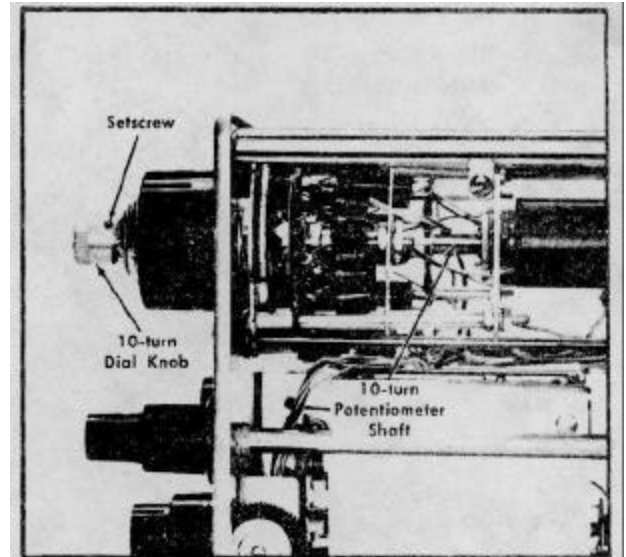
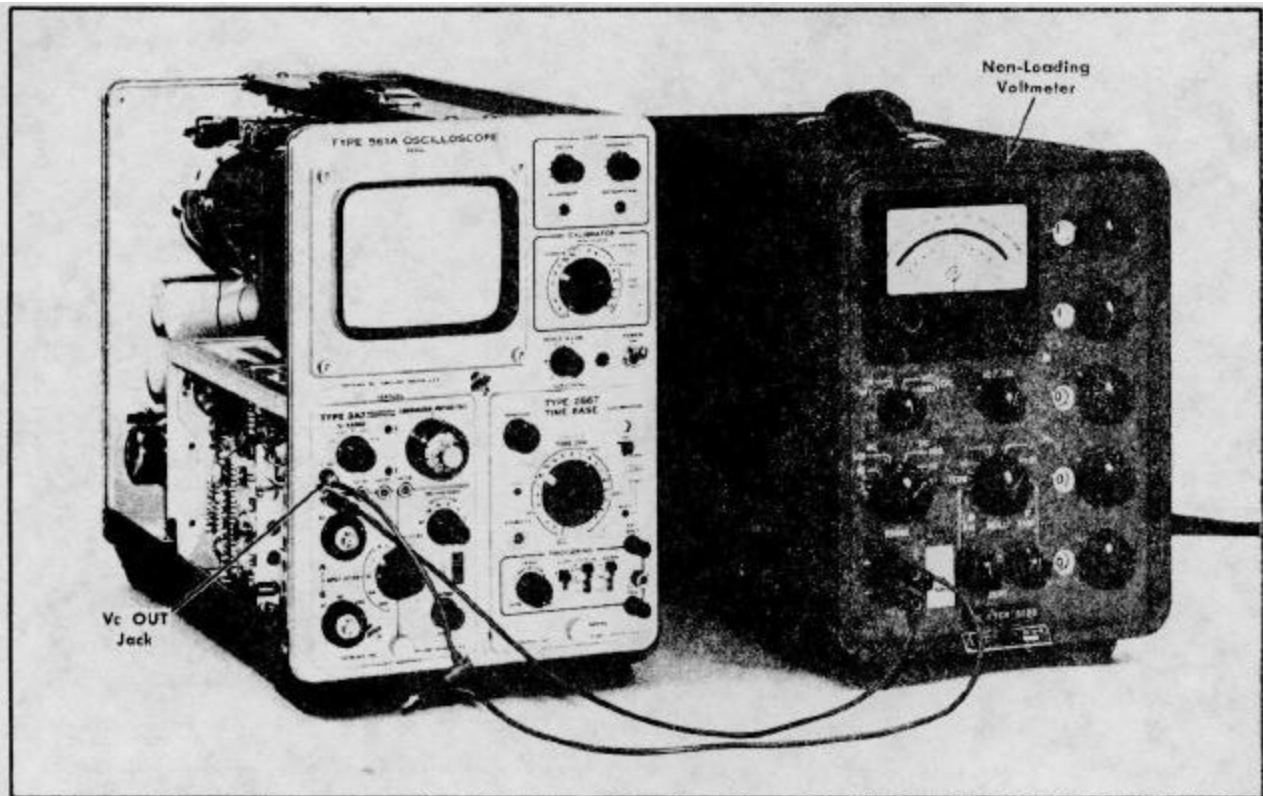
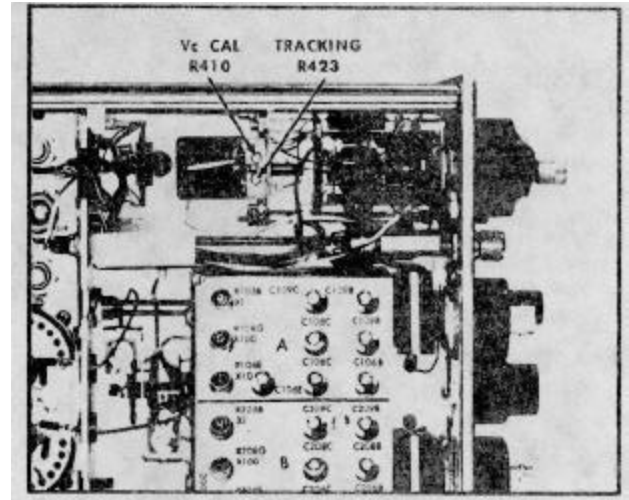

Fig. 5-11. Zero volts mechanical calibration, step 8.
Fig. 5-12. Setup at completion of step 9c.
Fig. 5-13. Location of adjustments for step 9 and 10.
b. With the COMPARISON VOLTAGE 10-turn dial set at its most counterclockwise position, check that the 10-turn dial reads 0-0. If it does not, loosen the setscrew (see Fig. 5-11) in the 10-turn dial knob and set the dial for the proper zero reading without turning the potentiometer shaft.
**9. Adjust Vc CAL R410** ❶
b. Set the non-loading voltmeter (item 8) to +11 volts.
c. Connect the voltmeter between the Vc OUT jack and ground. Fig. 5-12 shows the setup.
d. Adjust the Vc CAL control R410 (see Fig. 5-13) for a null reading on the meter.
**10. Adjust TRACKING R423** ❶
c. Reconnect the voltmeter between the Vc OUT jack and ground. (This setup is similar to the one shown in Fig. 5-12.)
d. Adjust the TRACKING control R423 (see Fig. 5-13) for a null reading on the meter.